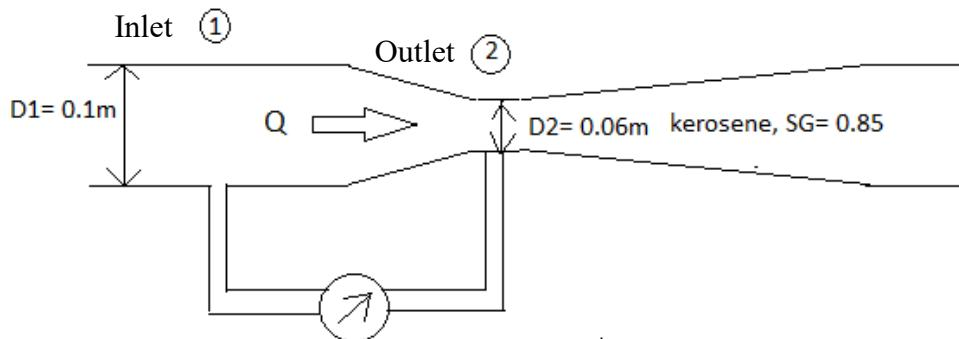

Figure 3 (a)
3. (a) Kerosene (specific gravity of 0.85) flows through the venturi meter as in Figure 3 (a) with flowrates between $0.005 \text{ m}^3/\text{s}$ and $0.05 \text{ m}^3/\text{s}$. Calculate the range in pressure difference, $P_1 - P_2$, needed to measure these flowrates.